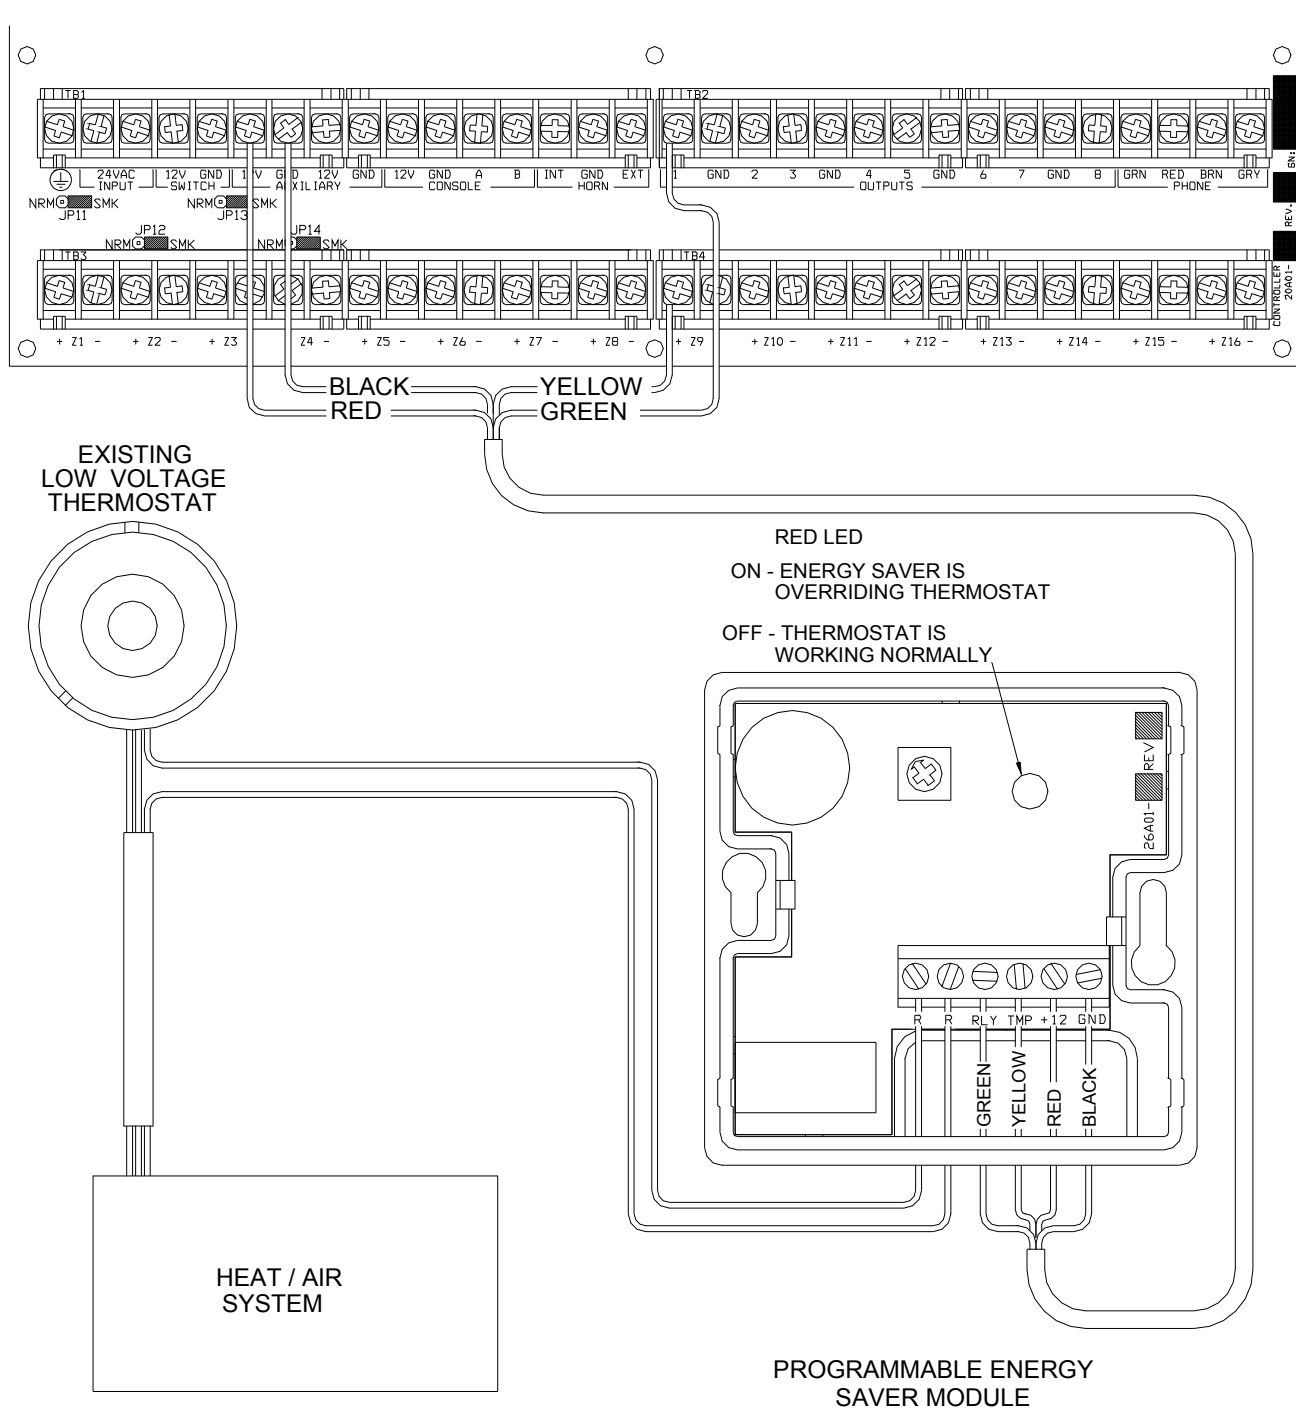

FIGURE 13 - PESM CONNECTIONS
3. Run a 4-conductor wire from the Omni IIe controller to each PESH. Connect as shown in **FIGURE 13 (PESH CONNECTIONS)**.